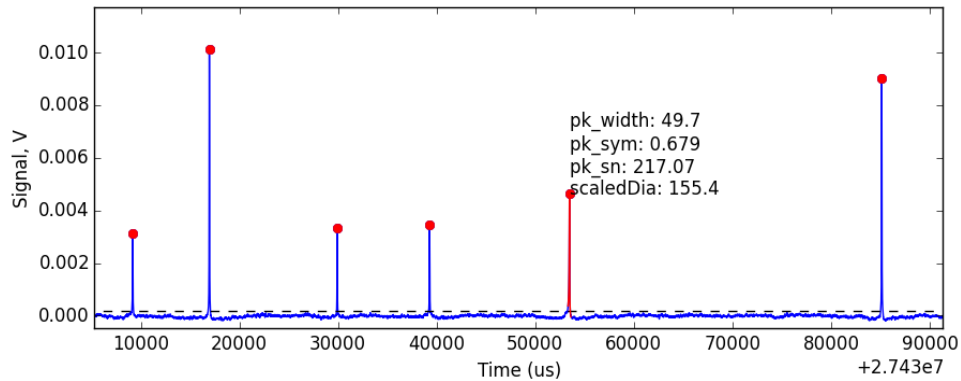

Figure 12. Inspecting individual peaks detected in the raw data.
- ❖ Clicking on the peak (at sufficiently high zoom) displays the details of the peak measurement (Figure 12).